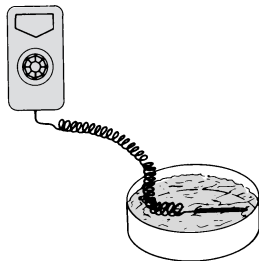

Figure 12
1. If accurate measurement standards are not available, the thermostat can readily be adjusted to a known temperature standard such as boiling water (212°F). (See Figure 12)